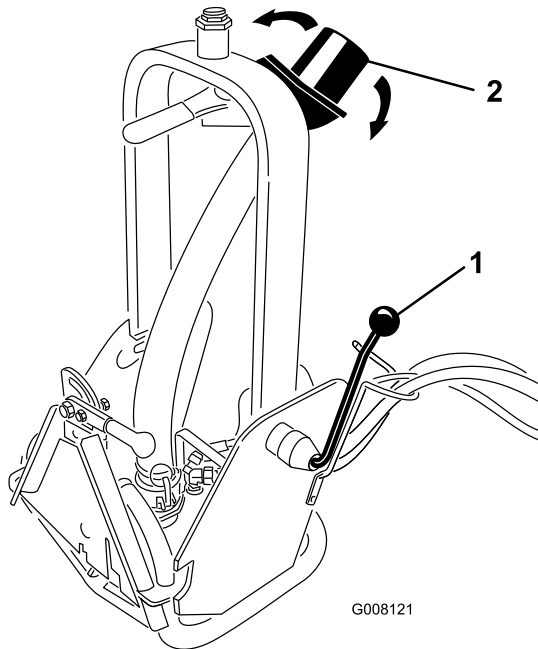

Figure 6
The discharge nozzle (Figure 6) can be adjusted up and down or from side to side to direct the flow to the desired location.
- Rotate the lockup handle (Figure 6) to unlock the pivot tower.